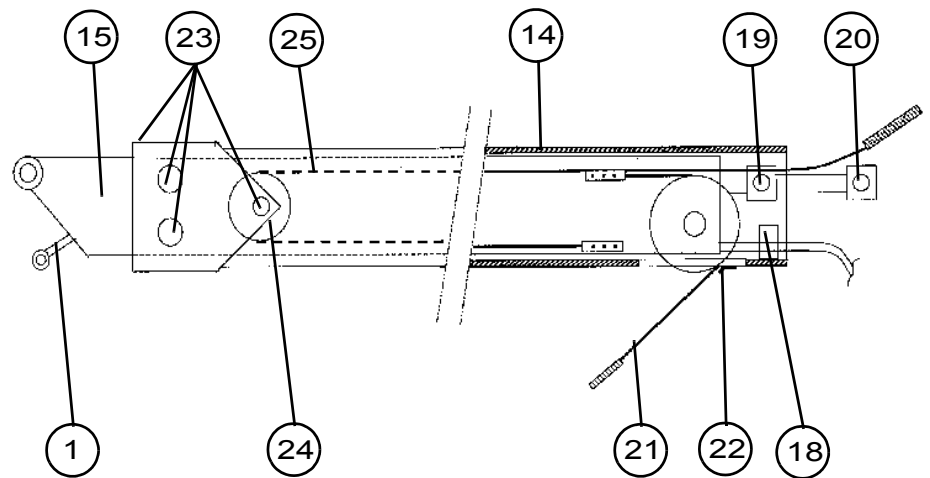

Figure 3
3 - Separating the head element (15) and the intermediary element (14) (Figure 3)
- Dismantle the chain guide at the back of the intermediary element (14).
- Remove the cylinder support half-pins (19).
- Take out the cylinder (20) from the head element (15) and intermediary element (14) assembly.
- Free the slings (21) of the back pulleys by taking out the retaining Hc screws and removing the lower plate (22), then take the free strands from the outlet passages.
- After marking the positions, remove all guide pads (23) on the intermediary element (side, top and bottom).
- Take out the retaining Hc screws and remove the front pulleys (24).
- Take out the slings (25) from the front.
- Finish taking out the head element (15), assisting passage of the chain, cables and hoses.